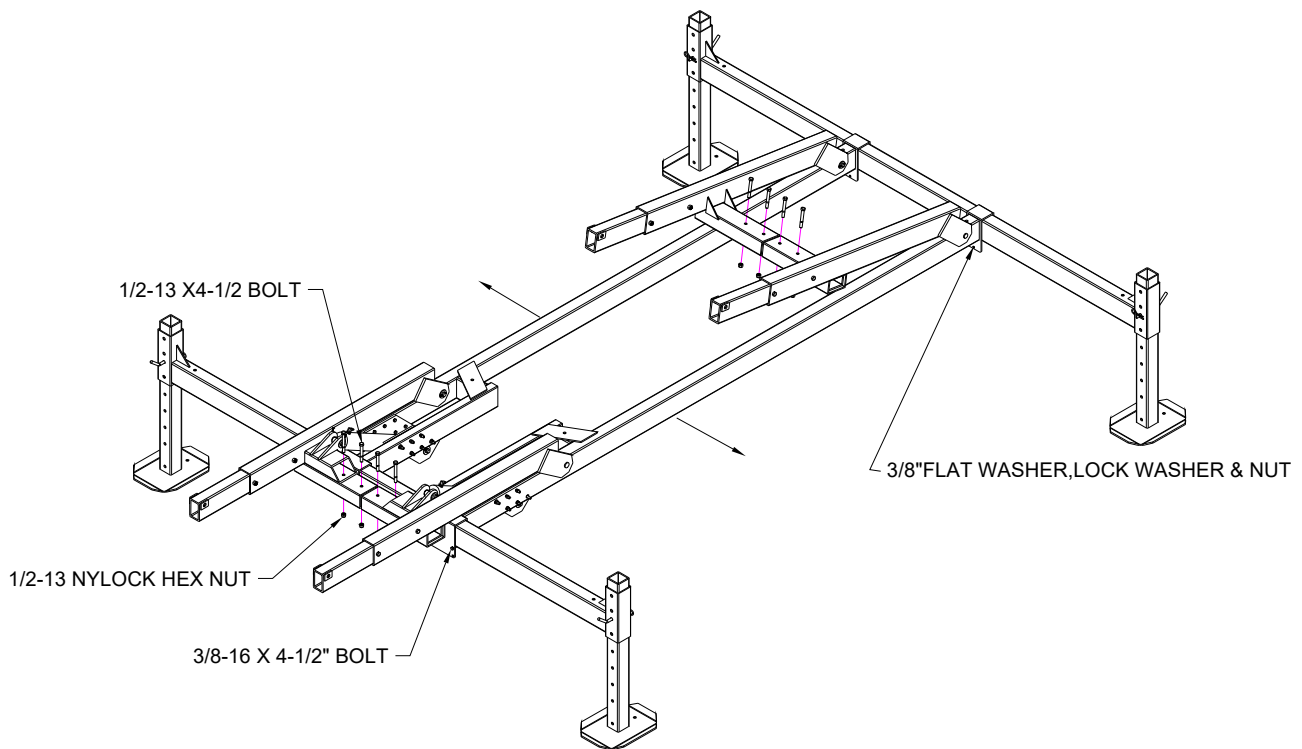
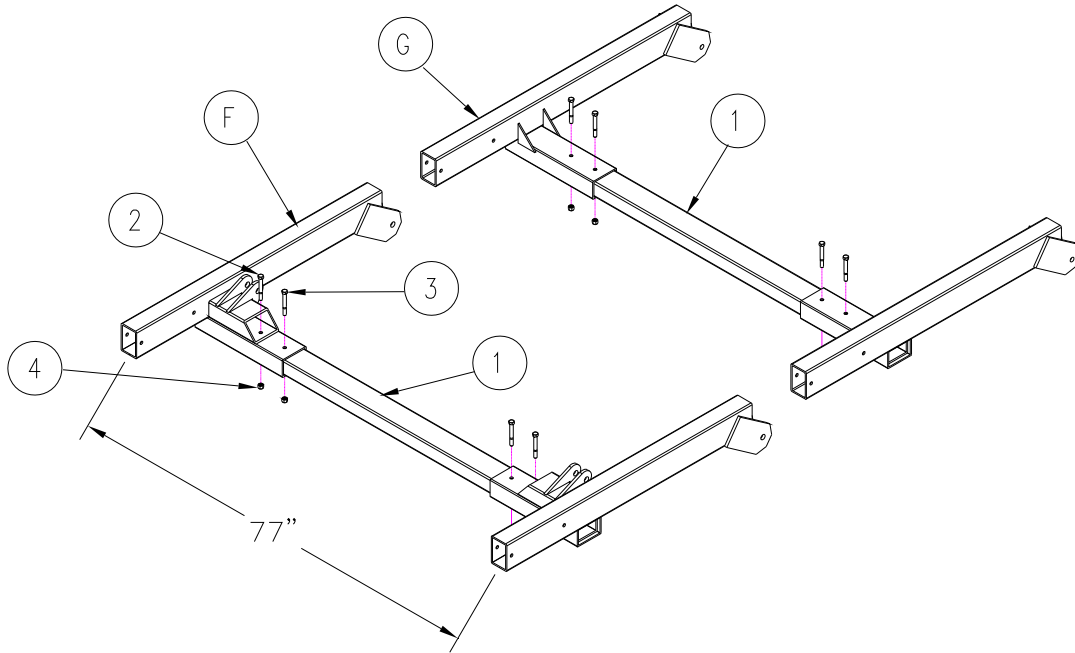

Figure 2-2.
Figure 2-3.
1. Refer to Figure 2-2 & 2-3. The HL adjustable Width Lift Arms must be made wider for the pontoon lift. In Figure 2-2, remove the four 1/2-13 x 4" bolts (#3), four 1/2-13 x 4-1/2" bolts (#2) and eight 1/2-13 Nylock hex nuts (#4) using a 3/4" wrenches. These bolts will be used in figure 2-3.
2. After removing bolts, remove the short Inner Cross Tube and replace with long Inner Cross Tube Supplied with kit. The Long Inner Cross Tube (1) is pre-drilled for a Pontoon with 77" center to center toons. Drilling will be necessary for other width pontoons. See diagram 2-4 for drilling pattern.
4. The left and right main frames must be moved to accommodate the wider lift arms. Remove the 3/8-16 x 4-1/2" bolts, flat washers, lock washers & nuts from ends of the main frames. Slide the main frames outward as shown in figure 2-2.